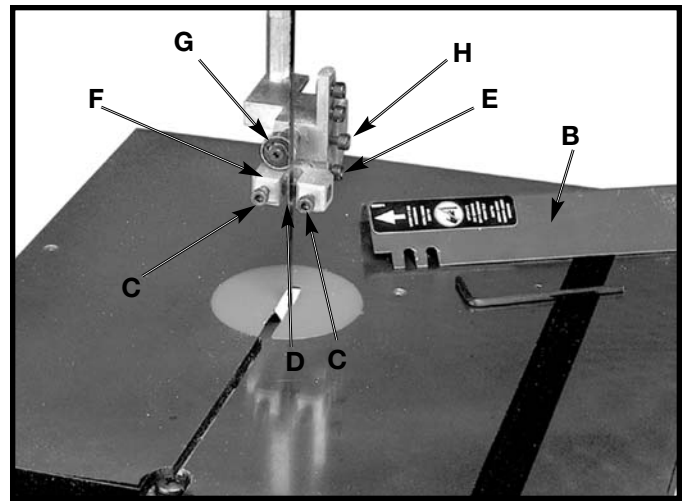
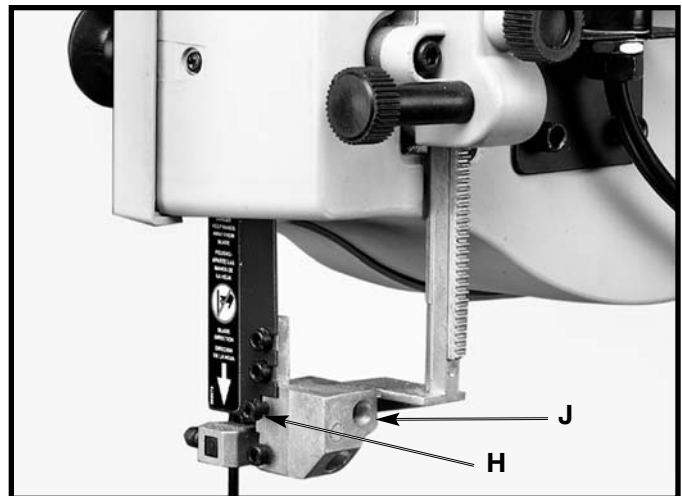

Fig. 27
Fig. 28
⚠ WARNING UPPER BLADE GUARD (B) FIG. 27 IS SHOWN REMOVED FOR CLARITY. ALWAYS MAKE SURE THE UPPER BLADE GUARD IS INSTALLED AND PROPERLY ADJUSTED BEFORE OPERATING THE BAND SAW.
1. Loosen the two screws (C) Fig. 27, and adjust the blade guides (D) as close as possible to the sides of the saw blade, being careful not to pinch the blade. Tighten the two screws (C).
2. Loosen screw (E) Fig. 27, and move the guide bracket (F) in or out until the front edge of the guides (D) are just behind the “gullets” of the blade teeth. Tighten screw (E).
3. The upper blade support thrust bearing (G) Fig. 27 prevents the saw blade from being pushed back too far when cutting. The support bearing (G) should be adjusted approximately 1/32" behind the blade. The blade should also overlap the outside diameter of the ball bearing by approximately 1/8". To adjust:
4. Loosen screw (H) Fig. 28, and slide support bearing (G) in or out until it is approximately 1/32" behind the saw blade.
5. The upper blade support bearing (G) Fig. 27, is set on an eccentric shaft. To change position of bearing (G), use a straight screwdriver, rotate shaft (J) Fig. 28, until the blade properly overlaps the support bearing. Then tighten screw (H).